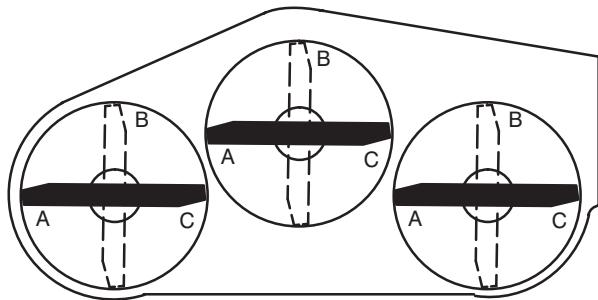
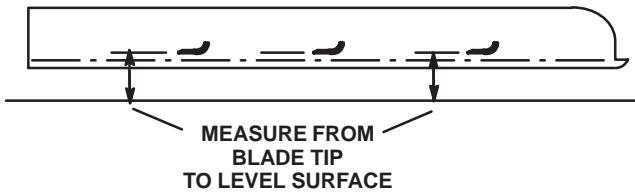

Figure 34
Figure 35
4. Position all three blades in the "A" position (Fig. 34) and measure from level surface to the bottom of the tip end of each blade (Fig. 35).
5. Note measurement attained at "A", rotate blades to "B" position (Fig. 34), measure distance of all blades to level surface and note dimensions (Fig. 35).
6. Rotate blades to "C" position, measure and note distance measured (Fig. 34, 35).